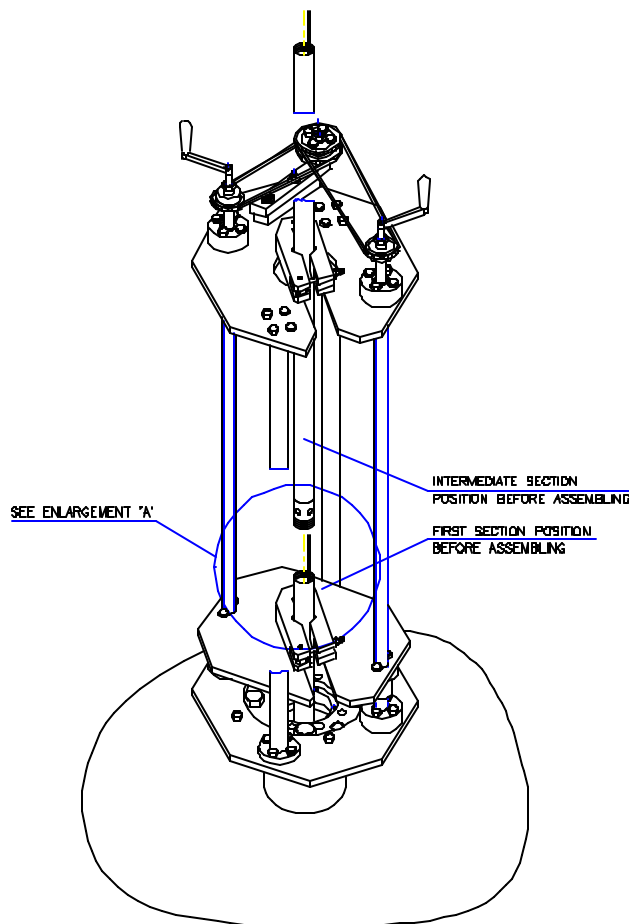

Figure 15
4. Slightly tighten the nut on the **Clamp** with a wrench, ensuring that it is gripping the section, as shown in *Figure 15* below.